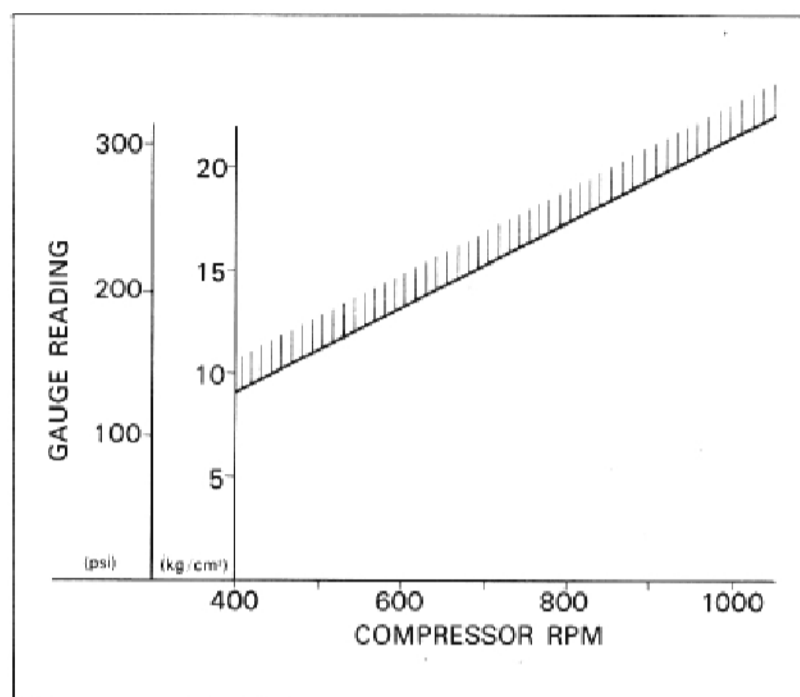

Fig. 3
- A) Lasting approx. 10 seconds after the compressor gets constant speed, the reading of high pressure gauge will be in the oblique lined zone shown in Fig. 3.